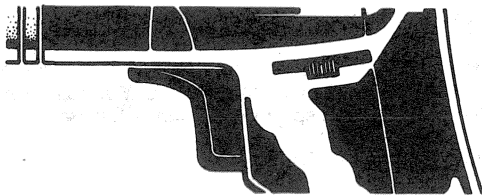

FIGURE 1
1. Move Switch Control Button to the center of its slot to LOCK Trigger Switch "OFF" (see Figure 1).